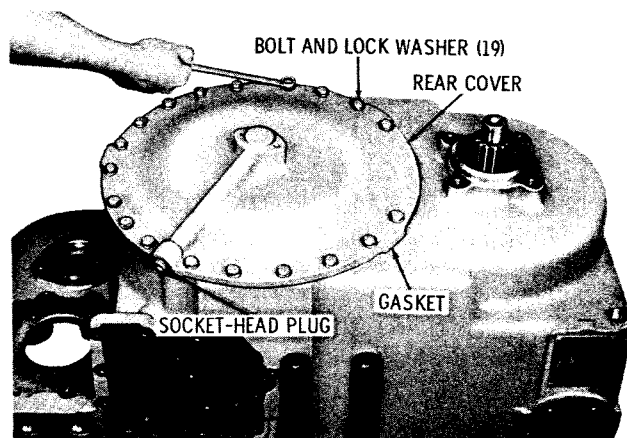

Fig. 5-17. Removing transmission rear cover
(1) Position the transmission to rest on wood blocks, front splitline downward. Remove the 19 bolts and lockwashers that attach the rear cover to the transmission housing (fig. 5-17). Remove the rear cover and gasket. Remove sealring 2 (B, foldout 6) from the rear cover. Remove pipe plug 3 only if replacement is necessary.
(2) If the transmission is equipped with a speedometer drive assembly, remove two bolts 15 and lockwashers 14. Remove speedometer drive sleeve assembly 10, gasket 9, speedometer drive adapter 8, and gasket 7 from rear cover 4. Remove lip-type oil seal 11 and washer 12 from drive sleeve 13 only if replacement is necessary.